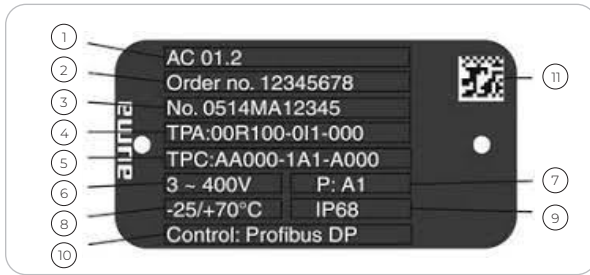

Fig. 8.1
The device can be equipped with different types of electrical actuators, most commonly from the manufacturer AUMA. The connection diagram for the actuator differs between different specifications of the actuator. Therefore, a connection diagram and complete manual is supplied physically with each actuator. If these documents are lost, complete documentation can be downloaded from the following website: <https://www.auma.com/en/service-support/wiring-diagrams>. The order reference for downloading can be found on the nameplate on the side of the actuator. See pos. 2 on figure 8.1